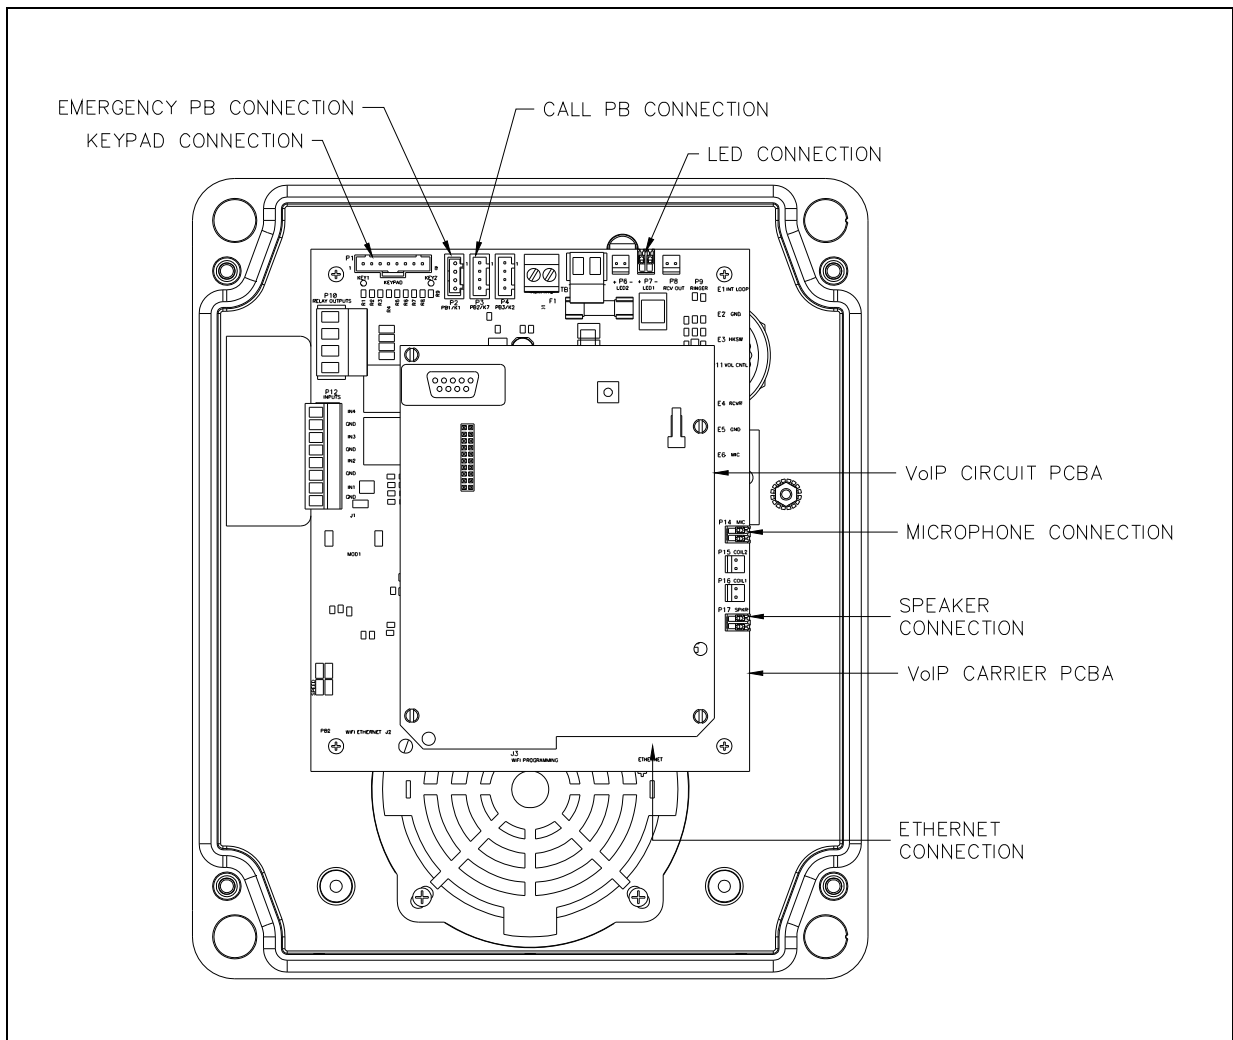

Figure 5. Models 393-700, 393AL-700 and 394AL-702
See Figure 5.
1. Align the holes in the four corners of the new PCBA with the standoffs in the telephone, maintaining proper orientation. See Figure 5.